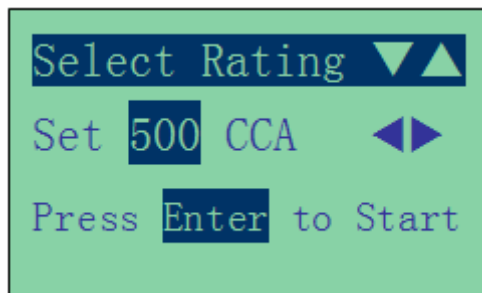
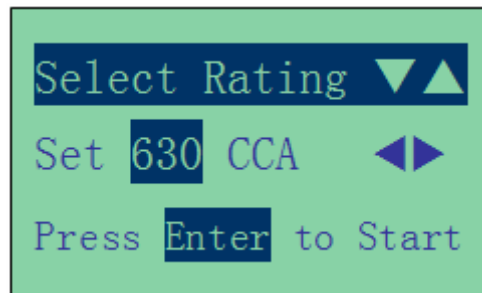

Figure 11
Figure 12
Press  key and the display will show: (Fig.11) below
- To enter the value 630, press  key will increase the original value of 500 (Fig.11) by step of 100 units to 600. Likewise use  key to increase the last two digits (00) to 30 by step of 5 units for each pressing. (Fig. 12)